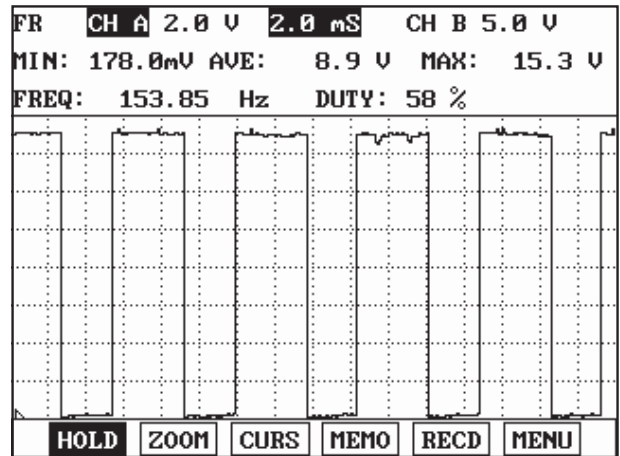

Fig.2
- Fig.2) Approx. 40% duty(-)duty) signal waveform of EEGR actuator(with EEGR valve opened)